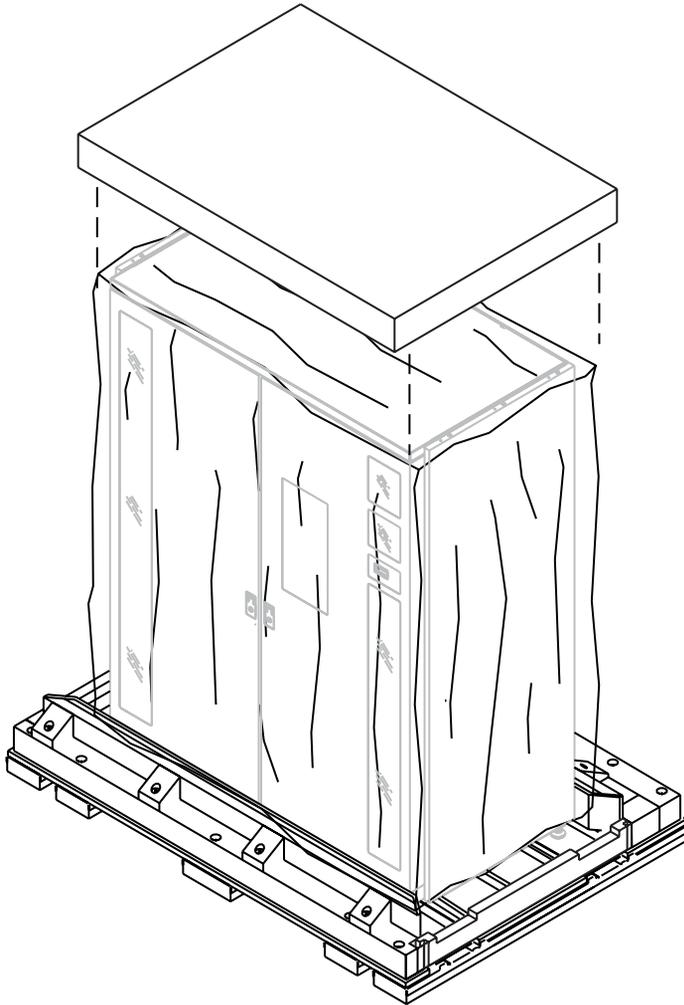

Figure 4-5: Removing the foam cap
9. Lift the foam cap up and off the library (see Figure 4-5).